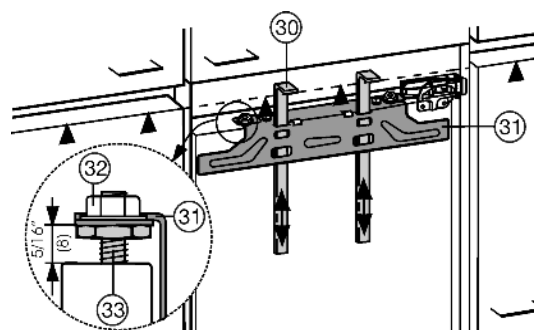
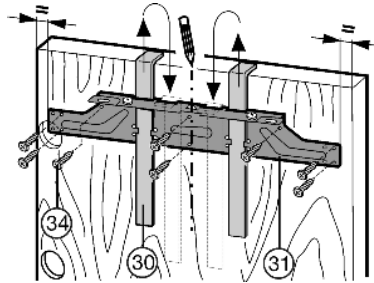

Fig. 25
Fig. 26
- ▶ Raise the fitting aids *Fig. 25 (30)* to the unit door height. Bottom stop angle ▲ of fitting aid = upper edge of the unit door to be fitted.
- ▶ Unscrew the crosspiece *Fig. 26 (31)* by undoing the locknuts *Fig. 25 (32)*.
- ▶ Hang the crosspiece *Fig. 26 (31)* on the inside of the unit door using the fitting aids *Fig. 26 (30)*.
- ▶ To center the crosspiece *Fig. 26 (31)*: Mark a short center line on the unit door and put the tip of the arrow on the crosspiece on it.
- ▶ To align the crosspiece *Fig. 26 (31)*: Mark a short center line on the unit door and put the tip of the arrow on the crosspiece on it. Then slide the crosspiece *Fig. 26 (31)* 3/16 in. (5.5 mm) toward the hinge side.
- ▶ Secure the crosspiece *Fig. 26 (31)* with at least 6 screws *Fig. 26 (34)*.
- ▶ Secure the crosspiece *Fig. 26 (31)* with 4 screws *Fig. 26 (34)* at the edge.
- ▶ Lift up the fitting aids *Fig. 26 (30)*, turn around and insert into the adjacent openings.